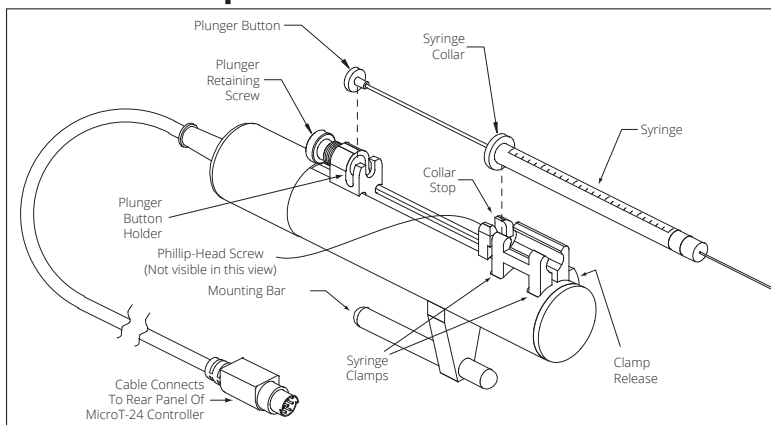
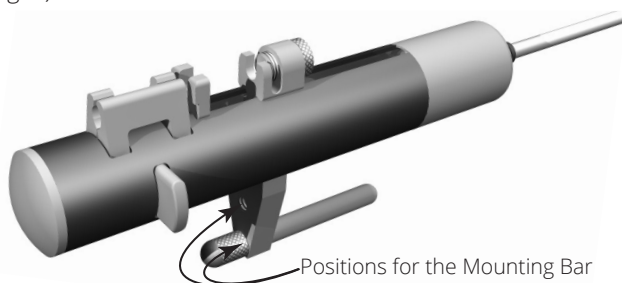

Fig. 7—The parts of the pump are labeled
Fig. 8—Unscrew the mounting rod to reposition it.
The **UMP3** can be mounted directly onto a stereotaxic frame or a micromanipulator, using the mounting bar (Fig. 7). The mounting bar may be unscrewed and repositioned, if necessary. Two positions are available on the under side of the **UMP3** (Fig. 8).
2. Then, place the syringe collar into the collar stop (Fig. 7).